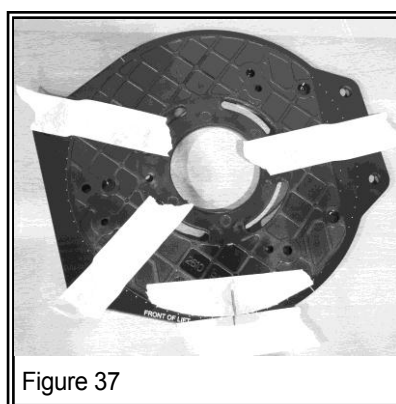

Figure 37
5. Secure the router sub-base to the blank plate with masking tape or by clamping it in place (see Figure 37).